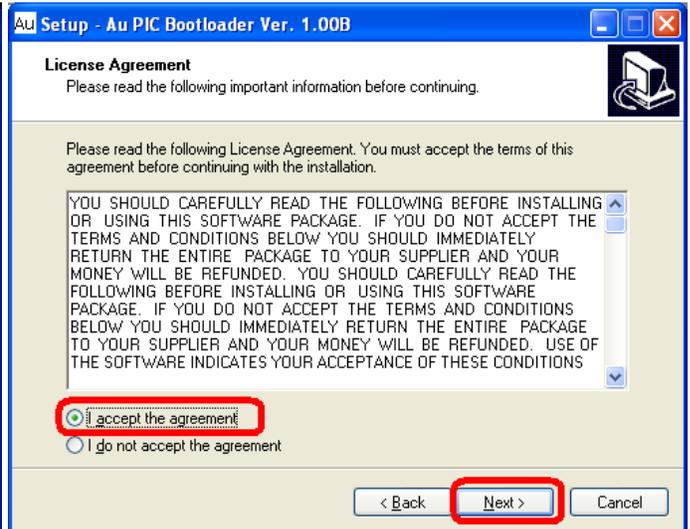

Figure B-3
3. “License Agreement” window show up, read the license agreement and select “I accept the agreement”, then click “Next” to continue (Figure B-3).